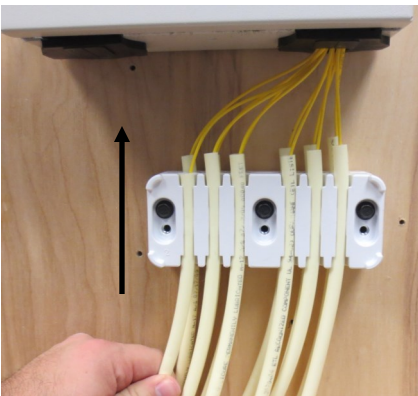

Fig. 9
- Route fiber jumpers into fiber box through the port grommet. Insert tubes into the microduct manifold plate (Fig. 9 & Fig. 10a-b).